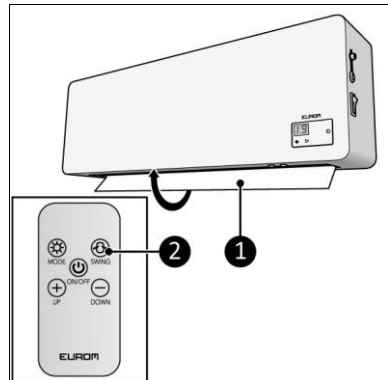

Figure 14
1. Press the SWING button (Figure 14, pos. 2).
2. The swing flap (Figure 14, pos. 1) will start to move.